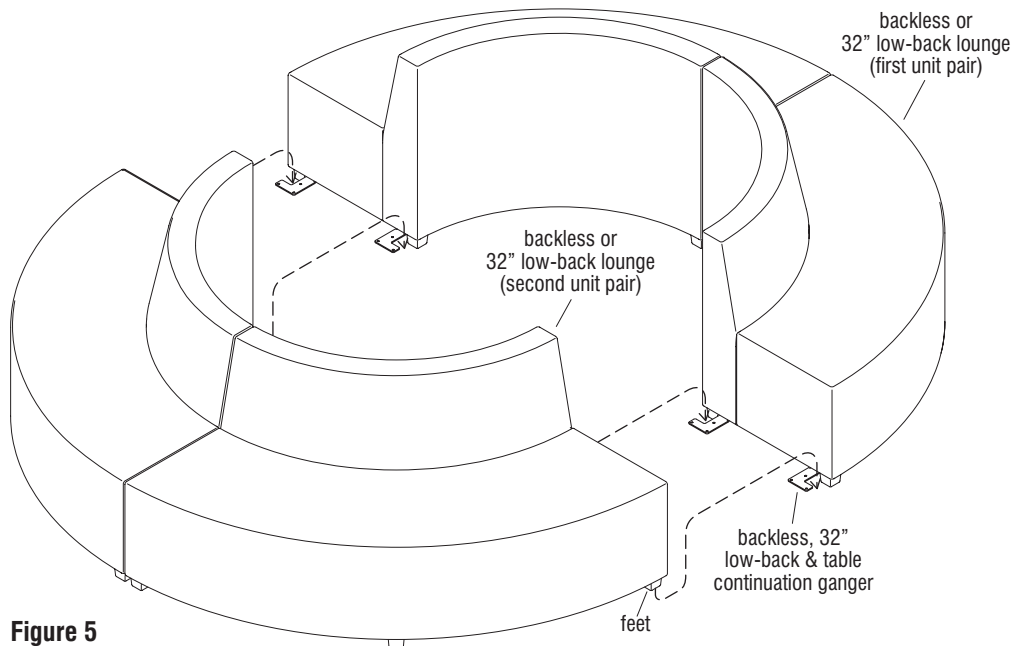

Figure 5
2. When all lounge seating units are fixed-ganged and have appropriate continuous gangers added where required, carefully turn unit pairs to the upright position and move into final configuration position. At continuation gang locations, lift the unit pair end without a ganger over the installed ganger of the other pair to nest units together in configuration (Figure 5).